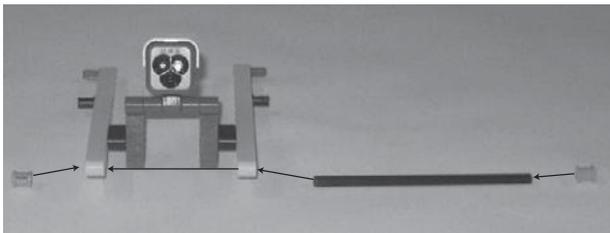

Figure 10.13
Step 2: The final step in the development of the sensor assembly is to connect a 12M cross axle to the bottom of the assembly, as shown in Figure 10.13.